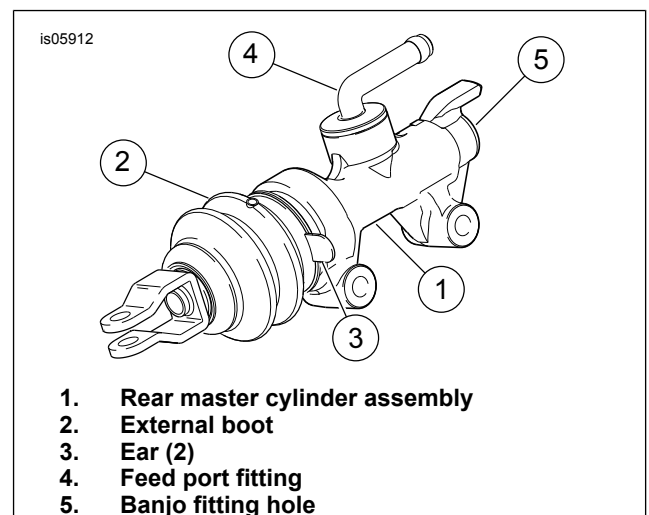

Figure 4. Assembled Rear Master Cylinder
2. Coat new O-ring (20) with D.O.T. 5 Silicone Hydraulic Brake Fluid (99902-77). Install O-ring and feed port fitting (21) into feed port on top of master cylinder. Secure with new retaining ring (22). Verify that retaining ring is fully seated in groove.
3. Slide dust cover (23) onto feed port fitting and press into place in master cylinder feed port. See Figure 4. Turn feed port fitting (4) so it points toward banjo fitting hole (5) at end of master cylinder body (1).
15. Remove master cylinder assembly from vise. See Figure 4. Slide external boot (2) over yoke/push rod assembly and external return spring.
16. Position external boot so that ears (3) are at the 3 o'clock and 9 o'clock position when master cylinder body (1) is held upright. This assures that drain hole is at bottom of boot when master cylinder is mounted on motorcycle. Make sure that lip on large end of external boot fits fully in groove in end of master cylinder.